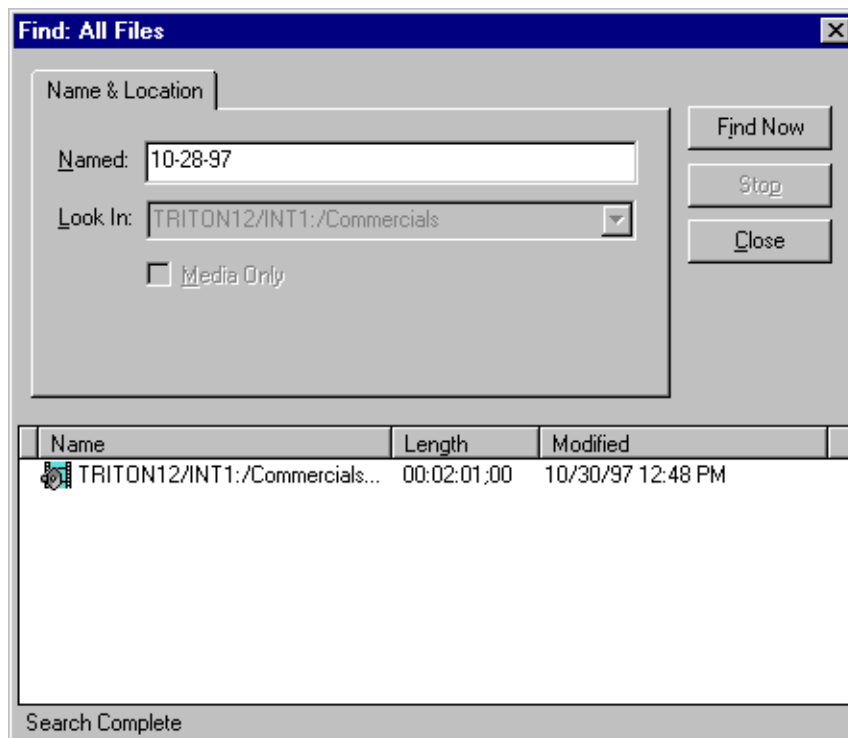

Figure 29. Find All Files dialog box
2. Choose **Find** on the **Edit** menu or from the shortcut menu with a right-click. The Find dialog box appears (see Figure 29).
4. Click **Find Now**. Click **Stop** to end the search. When a match is found, the result is displayed in the box at the bottom of the Find All Files dialog box, as shown in Figure 29.